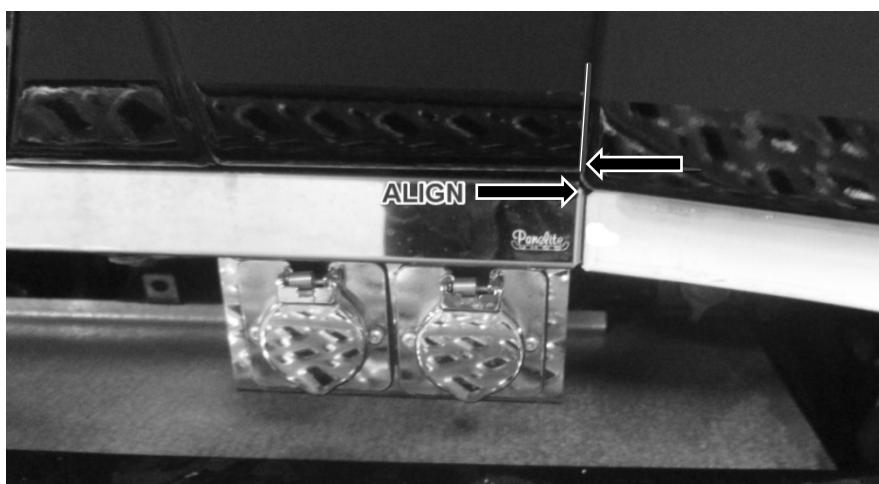

Figure 2
3. Position Cab Panel in place on the vehicle (align back of panel with vehicle body-line of transition panel – see Figure 2), and mark the (3) mounting holes with a scribe or other method.